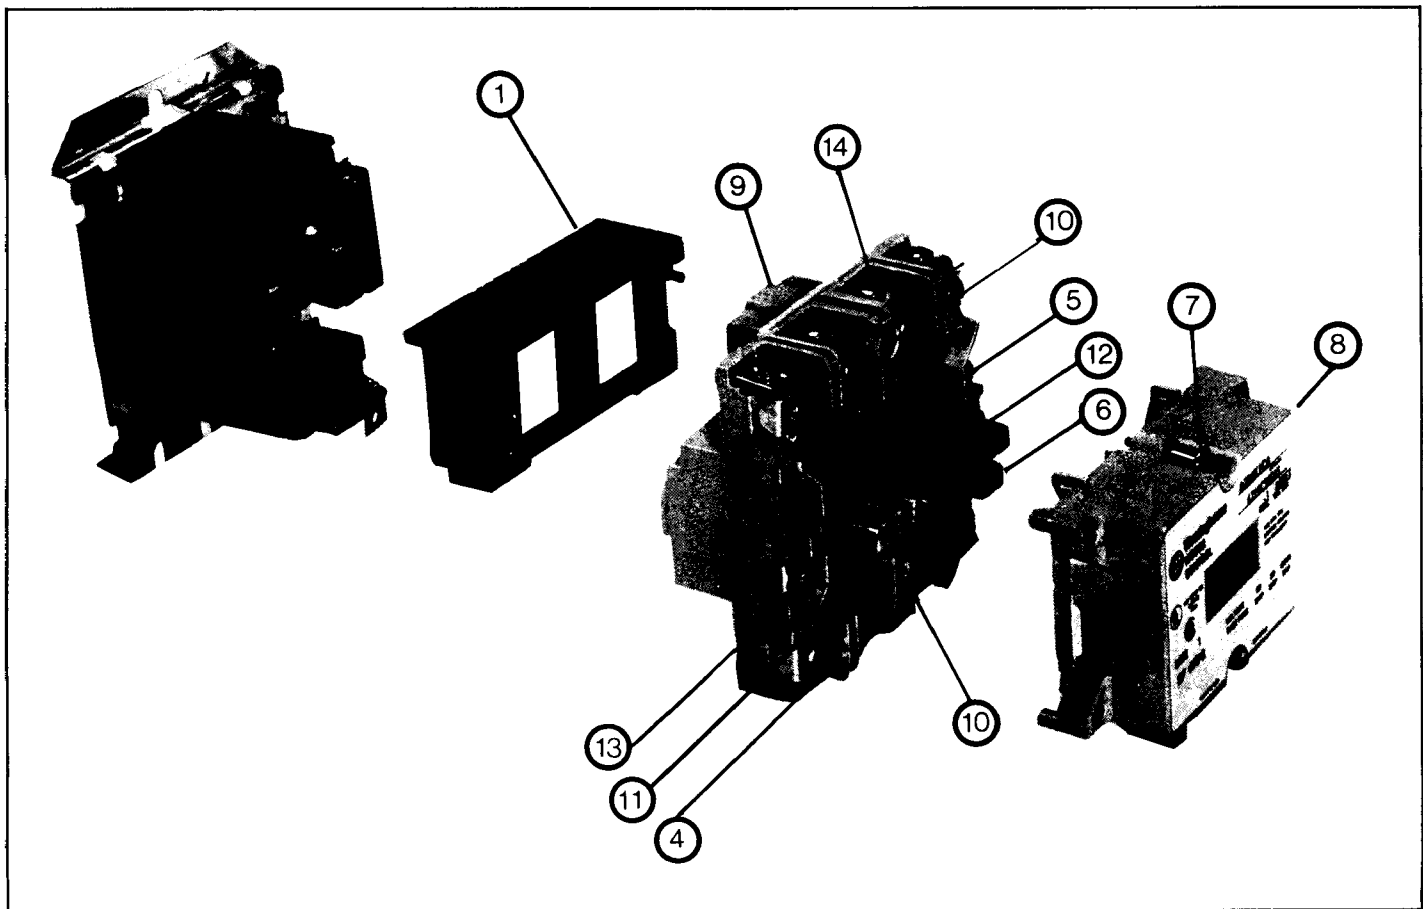

Fig. 9 Size 1 Contactor (Exploded View)
Refer to Figure 9. Loosen the two arc box assembly screws (7) located immediately above and below the nameplate and remove the arc box (8). Contacts (5) are visible. Retighten the screws per Table VI.
Refer to Figure 9. Loosen the assembly screws (10) located to the immediate top and bottom of the arc box.